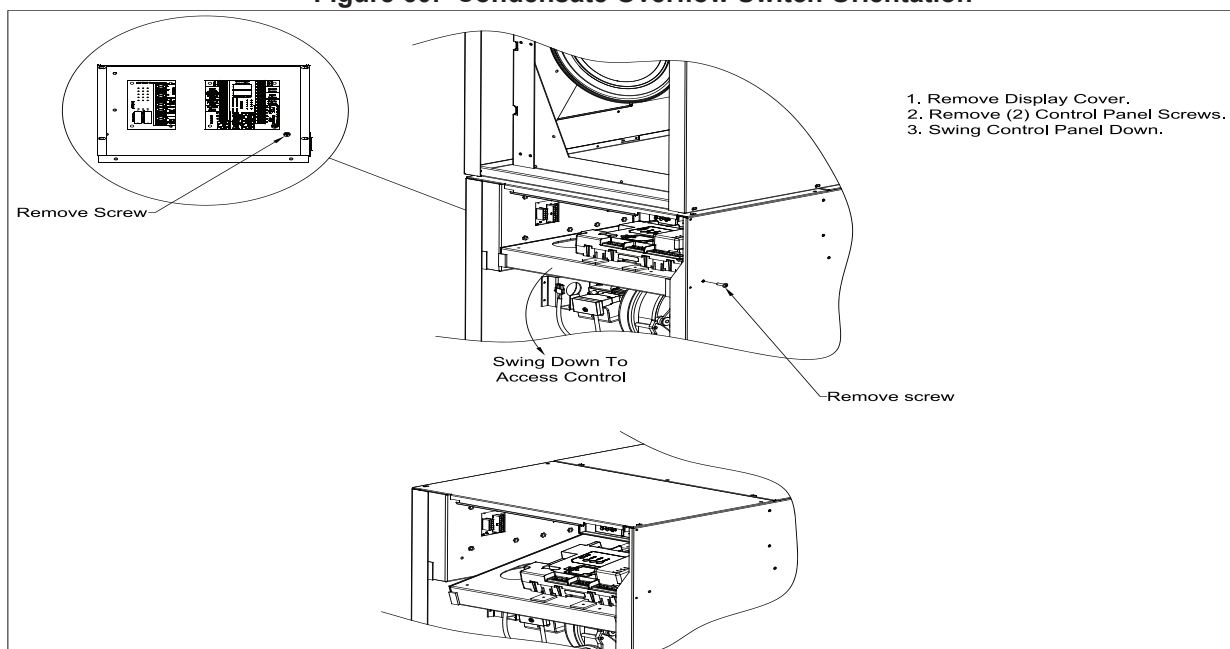

Figure 61: Control Compartment Access for Stacked Boiler Installations
- 2. **Stacked boiler installations:** Remove front door and display panel. As shown in Figure 61, remove two screws, one inside junction box and one on right side panel. Swing control panel downward to access control compartment.